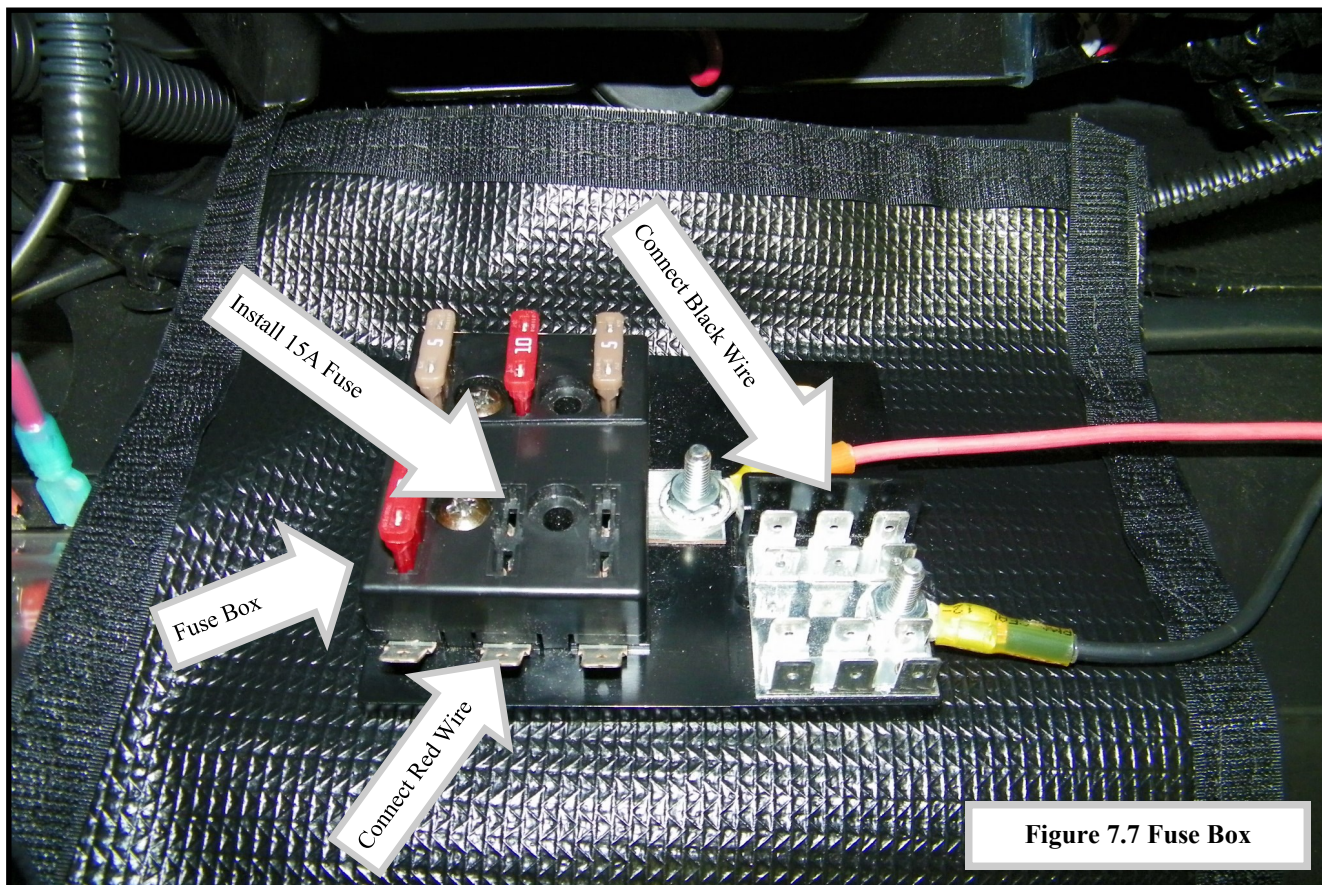

Figure 7.7 Fuse Box
7.7 Connect the black wire to the grounding section of the fuse panel noted. (Figure 7.7)
7.8 Connect the red wire of the harness to the fuse block noted. (Figure 7.7)
7.9 Install fuse into the fuse block, at the terminal corresponding to the heater. (Figure 7.7)